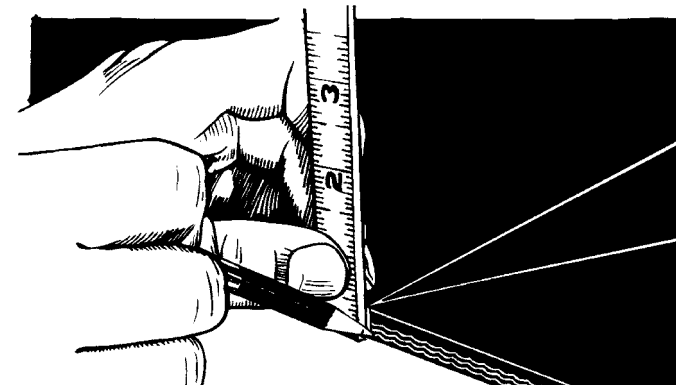

Fig. 5-6: Marking the ply cuts down the edge of the belt.
7. Measure off the bias length and draw the bias line to the end of the master line on the opposite edge (Fig. 5-6). This line marks the location of the top ply cut after the cover gum is removed.